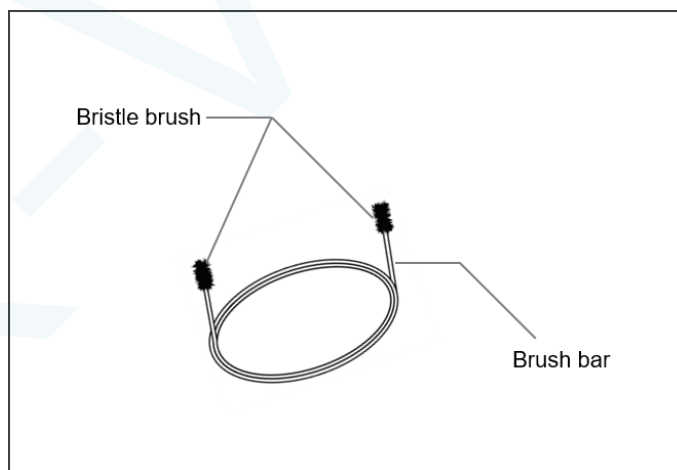

Figure 7.4
The channel cleaning brush is used to scrub the inside of the biopsy channel and the suction channel, and the inside or opening of the suction button, the air/water supply button and the instrument channel (Figure 7.4).
1. Make sure the brush head is securely attached to the metal tip at the distal tip. Check to see if the brush is loose or falling off (Figure 7.4).